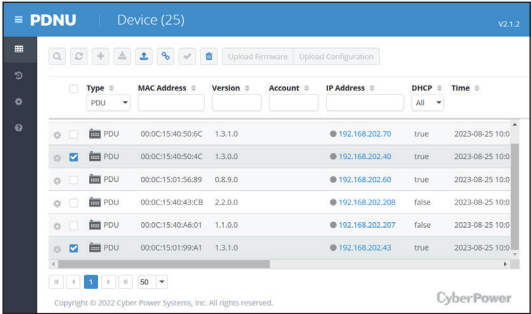

Figure 5. Equipment List
Step 1. Select the appropriate PDU device from the Equipment List (Figure 5).